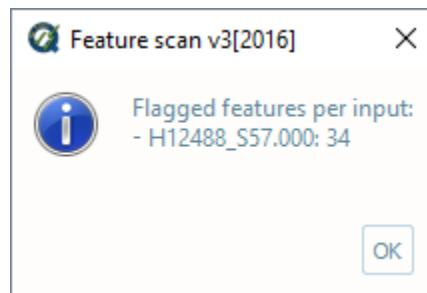

Fig. 2.77: Feature scan's output message.
- After computing, the output window opens automatically, and the results are shown (Fig. 2.77).